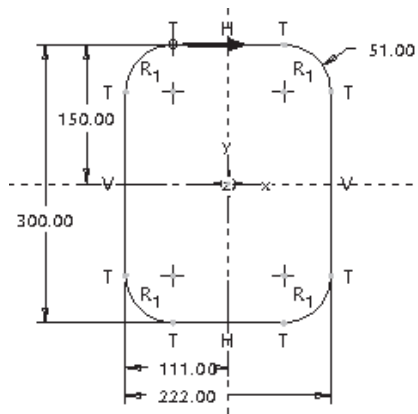

Figure 7-116 Sketch with dimensions and constraints of section 1
- Create the first section for the blend feature, refer to Figure 7-116.
3. Apply constraints and modify the dimensions of the sketch, as shown in Figure 7-116.